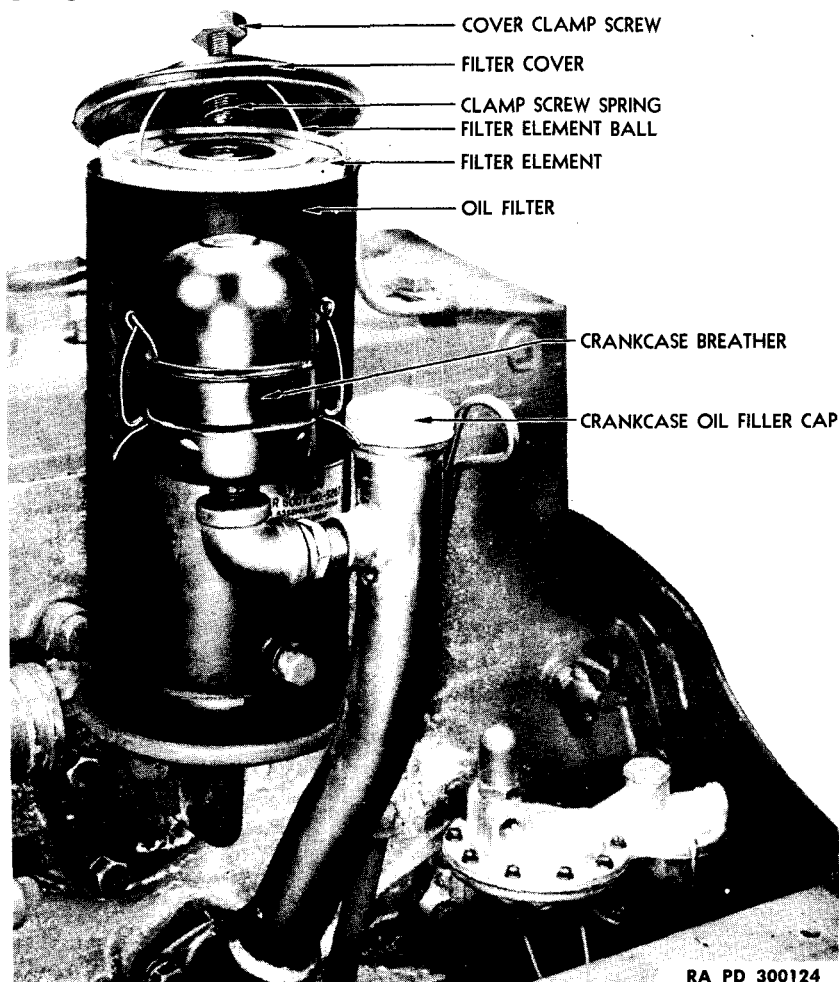

Figure 28—Oil Filter
a. **Remove Oil Filter Element.** Unscrew oil filter housing cover screw (fig. 28) and lift off cover. Withdraw oil filter element. Remove